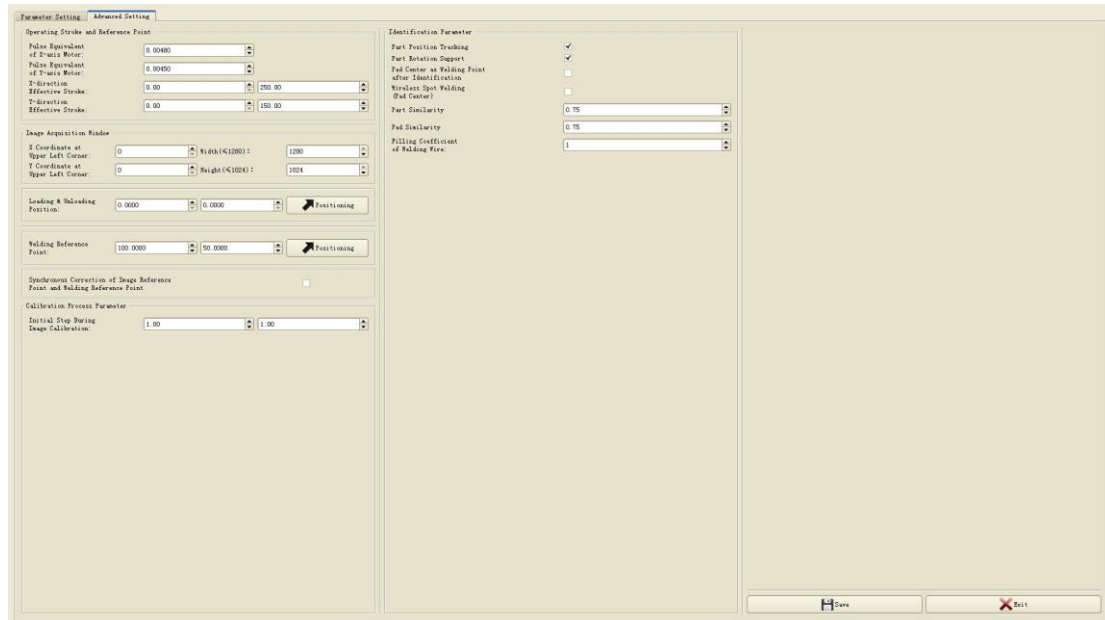

Fig. 8 Advanced Setting
- (1) Select the “Advanced Setting” property page in the pop-up dialog box, as shown in Fig. 8;
- (2) Parameter description